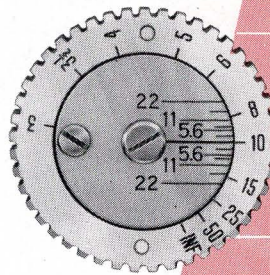

Fig. 13
2. Then focus on the farthest object which should still appear on the negative with acceptable sharpness (Fig. 13). This distance may be, for example, 10 feet.